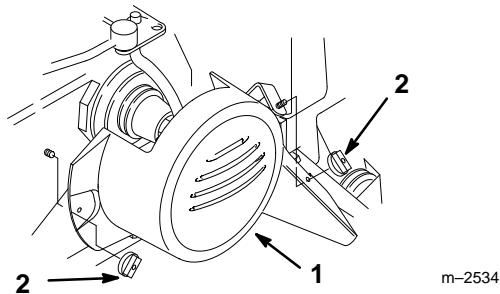

Figure 13
2. Remove the two wing nuts and belt cover from the tractor (Fig. 13).